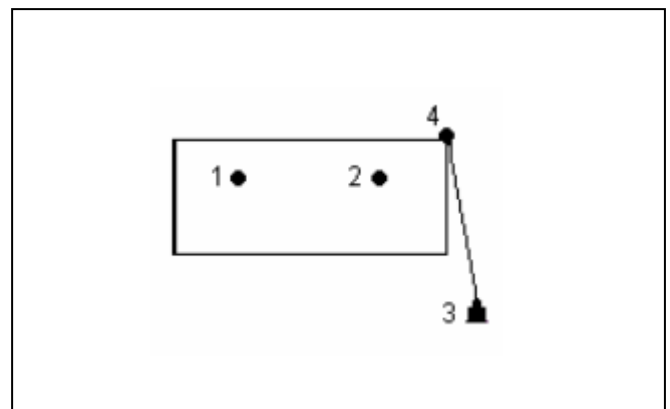

Figure 7: Vertical Plane and Angle Measurement
actual corner to be measured can be measured very accurately and is not affected at all by the corner effect. This application allows the two wall measurements (1 and 2) and the angle to the true corner to be measured in sequence, from which the accurate position of the true corner (4) is automatically resolved. See Figure 7.